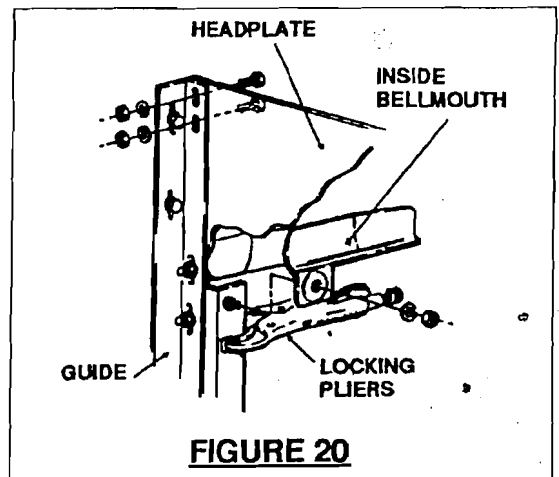

FIGURE 20
- If the Guides are not flared, install Curtain Stop-Bellmouth on Guides. A Stud is attached to the Guides to hold the Bellmouth. Be certain the back of the Bellmouth is flush against Headplate. See Figure 20.